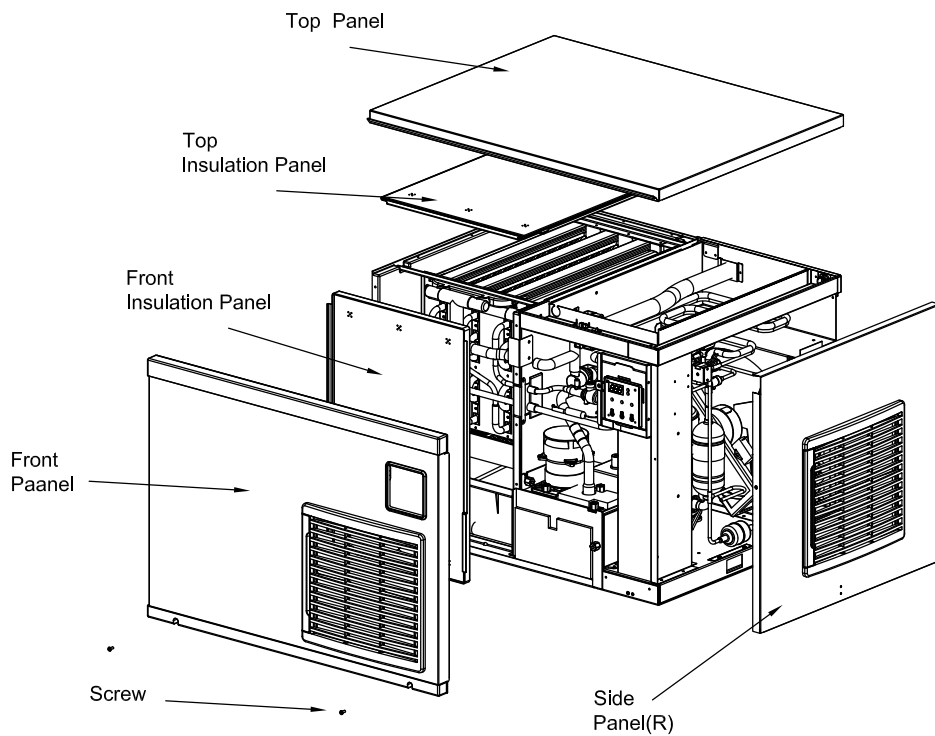

Fig 1
Remove them in the following order by referring to Fig 1.
- Unscrew (1) and (2). Then, remove the front cover (A) by lifting as shown in Fig 1.
[Fig 1]